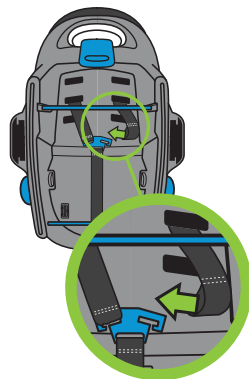

Figure 8
- Hold the silver Metal Harness Plate straight up ensuring there are no twists in the Harness Adjuster Strap, and slide the loop end of each Shoulder Harness Strap through the slot in the Metal Harness Plate, ensuring that each Strap is completely inside the slot as shown in **Figure 8**.